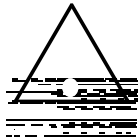

**Figure 1**
1. Locate the letter "N" and arrow on rigid wireway and hold with arrow pointing up. Assemble rigid wireway bracket onto bottom injection molded snaps, one bracket per end. Place rigid wireway assembly on inside of modesty panel beam, aligning holes in rigid wireway brackets with those in the modesty panel beam. Secure with two 1/4-20 x 1/2 screws (Figure 1).
2. Snap the appropriate receptacle into the rigid wireway with firm pressure from center of desk (Figure 1).